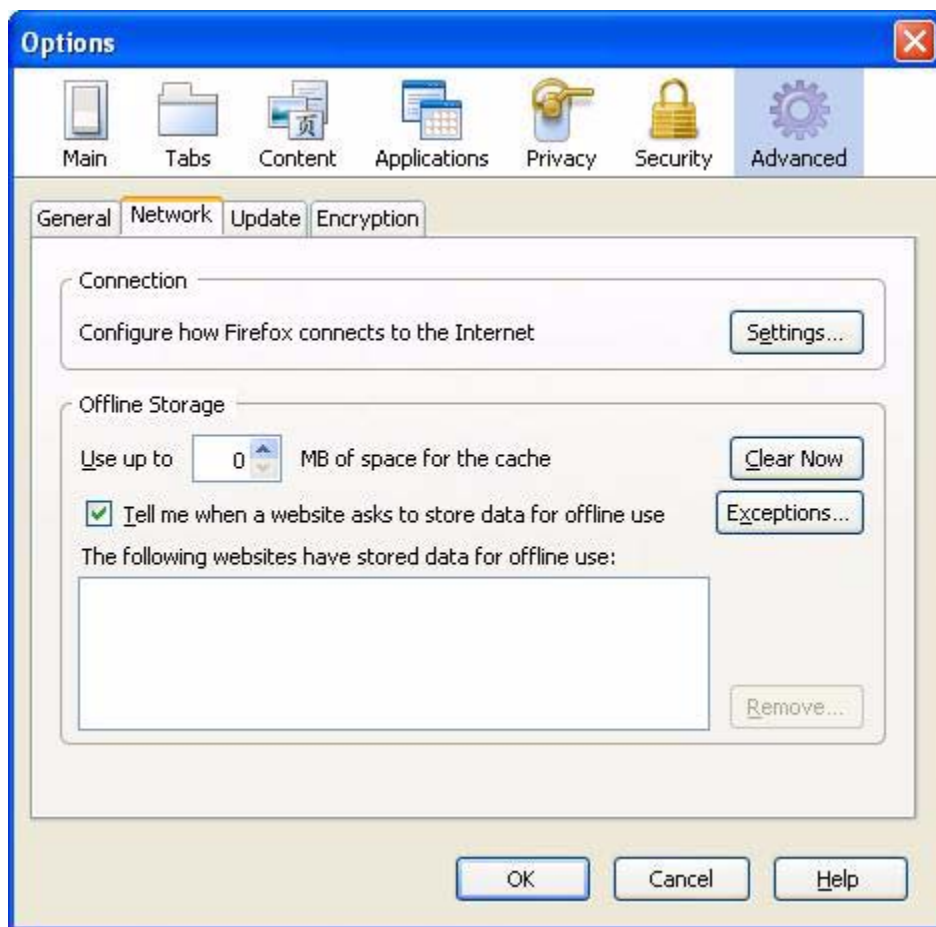

Figure A-1 · Tools > Options > Advanced > Network
4. Click the Network tab (Figure A-1).